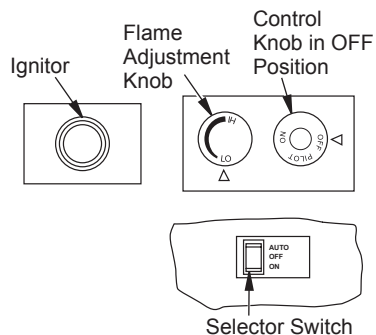

Figure 29 - Control Knob, Ignitor Button and AUTO/OFF/ON Switch
4. Press in and turn control knob clockwise  to the OFF position (see Figure 29).
5. Wait five (5) minutes to clear out any gas. Then smell for gas, including near the floor. If you smell gas, STOP! Follow "B" in the safety information, page 19. If you don't smell gas, go to the next step.
6. Press in and turn control knob counterclockwise  to the PILOT position. Press in control knob for five (5) seconds (see Figure 29).